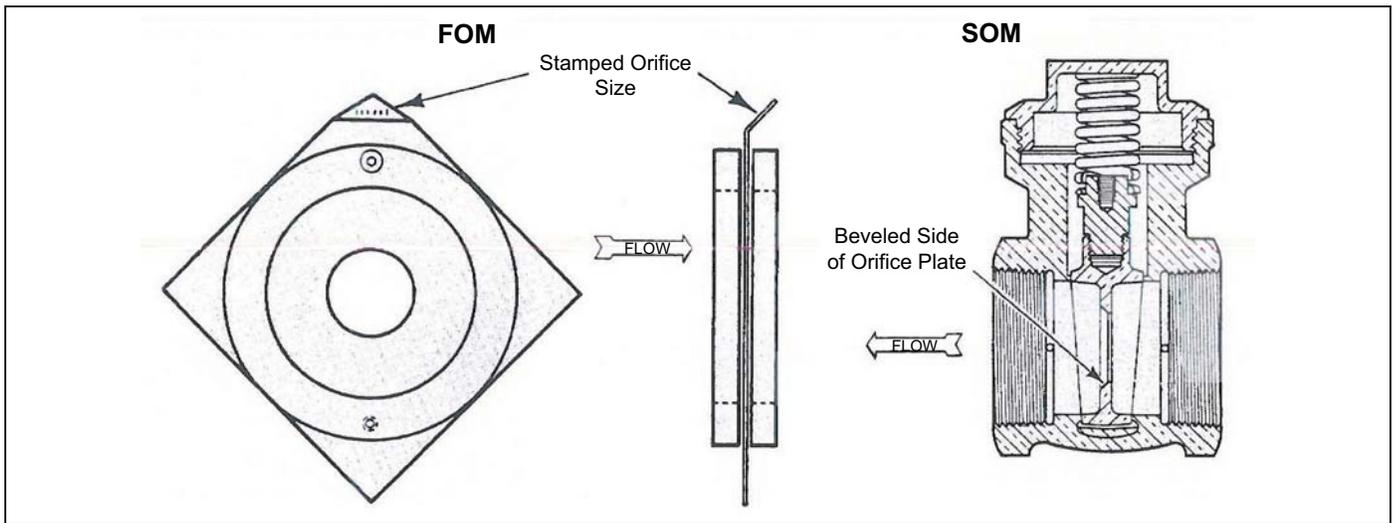

Figure 5.
5. Slide the orifice assembly between the flanges being careful not to damage the gaskets. The upstream side of the orifice plate has the orifice size stamped on the bent corner (Figure 5). The orifice plate will center the assembly.
1. Inspect the orifice to make sure no dirt or other foreign matter has collected on the orifice during shipping or storage. While checking the orifice for dirt, identify the beveled or downstream side of the orifice plate. See Figure 5.